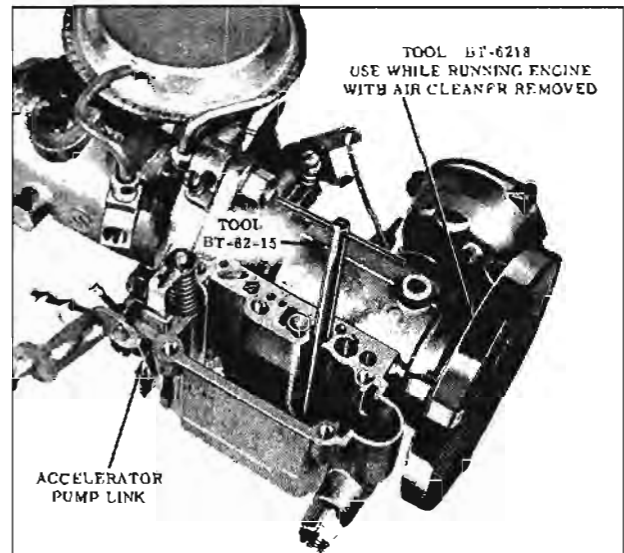

Fig. 9-118 Metering Jet Removal
8. The main metering jet may be removed by prying upward on the small guide disc at the top of the main metering jet well. Use Tool BT-62-15 to remove the main metering jet. (Fig. 9-118)